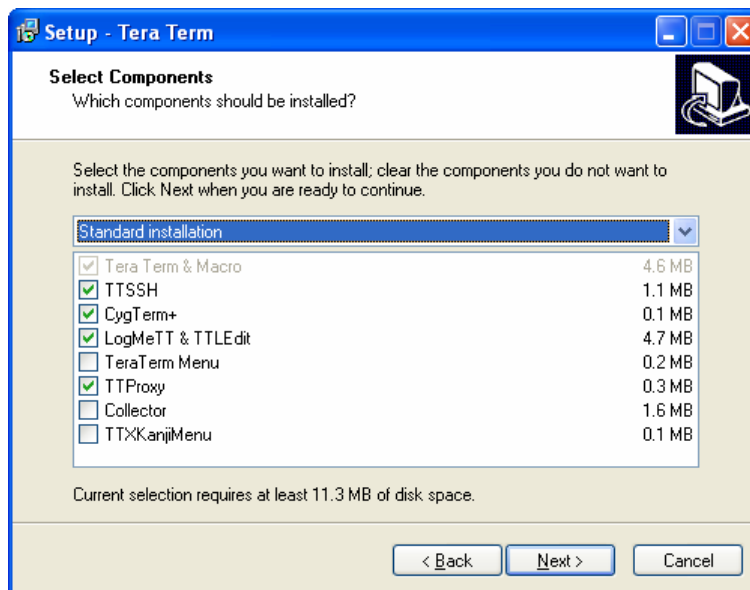

Figure 6-16: Select Components Screen
10. Select **Standard installation** on the Select Components screen, then click **N**ext (Figure 6-16).